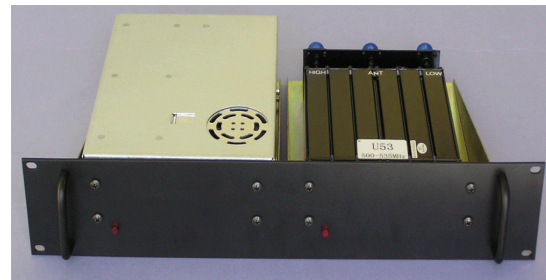

Figure 4. MXPS15 Fitted on Rack mount with a duplexer
- Duplexer tray option and MXPSU. Seen in Figure 4. MXPS15 Fitted on Rack mount with a duplexer